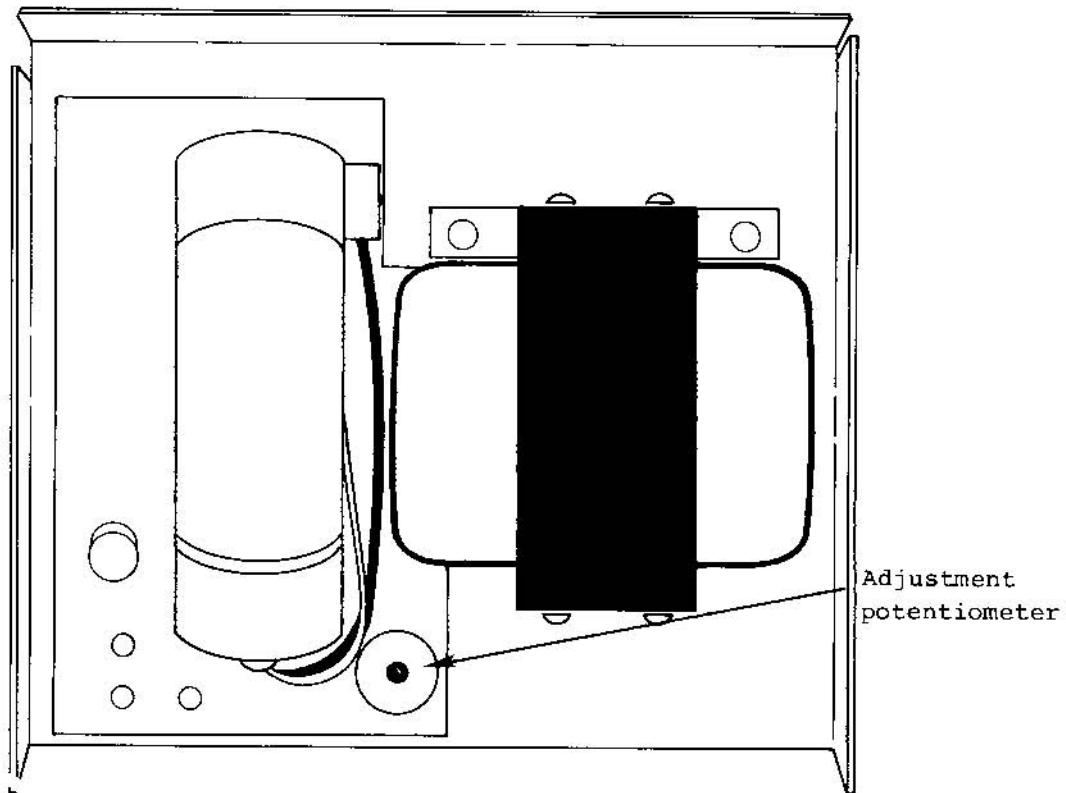

Figure 3: Power Supply Adjustments
2. Adjust the power supply potentiometer for $+5.0 \pm .1$ VDC (see Figure 3).